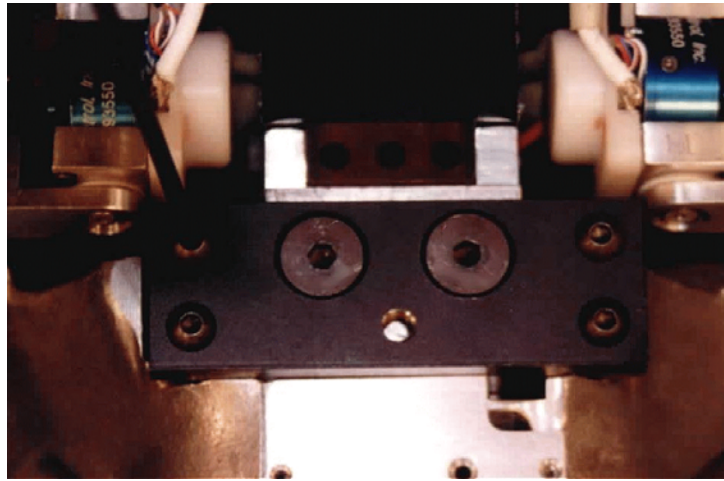

Figure 10.23- Lower Abdomen to Rear Attachment Plate
5. Attach the rear flange of the lower abdomen assembly to the rear support plate using four 1/4-20 x 5/8" BHSCS-NP {5/32}, as shown in **Figure 10.23**.